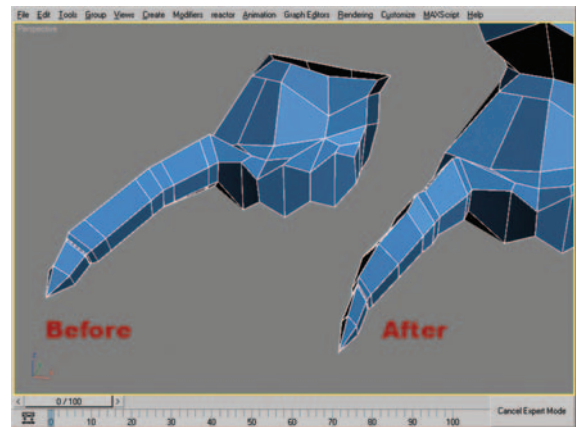

Figure 9.71 Finger geometry before and after adjusting placement, rotation, and scale.
33. All of the geometry needed for the finger is now in place (Figure 9.71, left). Use the Move tool as well as Scale and Rotate to create a more organic shape (Figure 9.71, right).